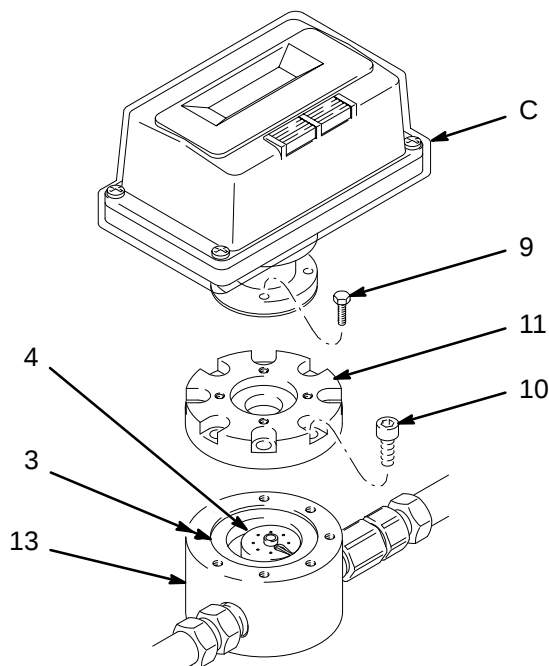

Fig. 6
2. Remove the four screws (9). See Fig. 6.
3. Separate the display module (C) and the meter cover (11).
4. Remove the eight screws (10).
5. Separate the meter cover (11) and the fluid chamber (13).
- NOTE:** Replace the o-ring (3) whenever the meter is disassembled.
6. Rotate the rotor (4) slightly by hand. If the rotor does not turn smoothly, remove the rotor from the chamber (13), and clean both parts with thinner.
7. Assemble the parts in reverse order. Torque the screws (10) opposite and evenly to 21 N•m (15 ft-lb). Torque the screws (9) opposite and evenly to 6 N•m (4 ft-lb).